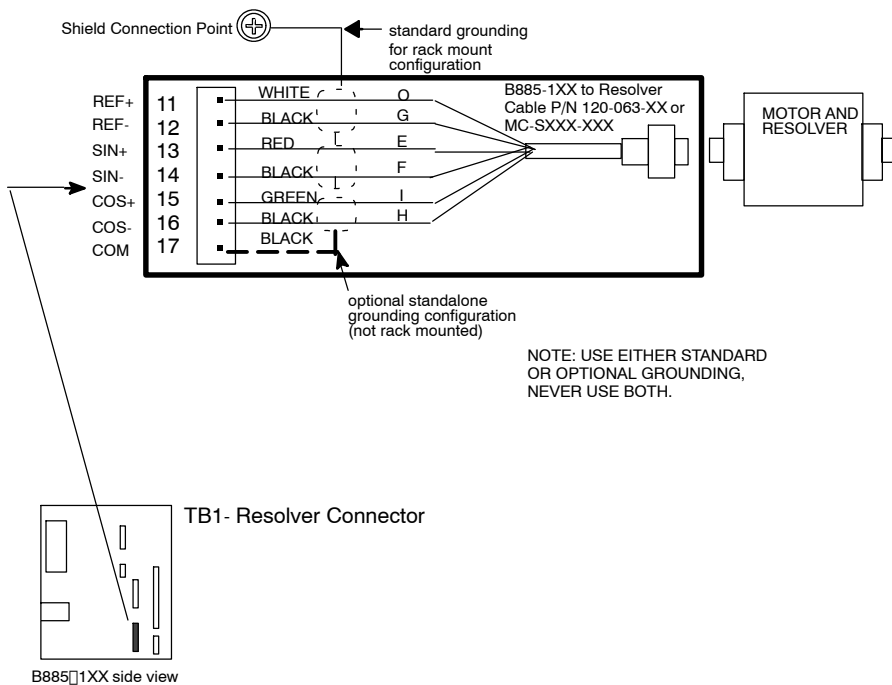

Figure 34 Reference and Feedback Signal Test Points on the B885-1XX
- Step 3** Check the reference signal output from the B885-1XX. Using an ac voltmeter, measure the reference signal between TB1-11 (REF+) and TB1-12 (REF-). The signal should be 1.8 ... 6 Vac (RMS). If the reading is low or absent, there may be a problem with the B885-1XX. Refer to Figure 34.